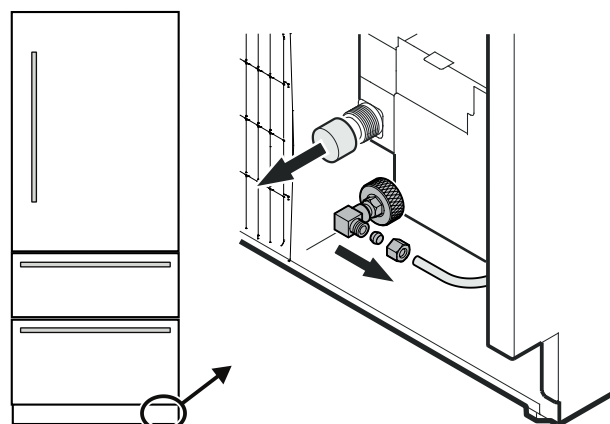

Figure 16
5. Remove the cover from the solenoid valve (Figure 16).